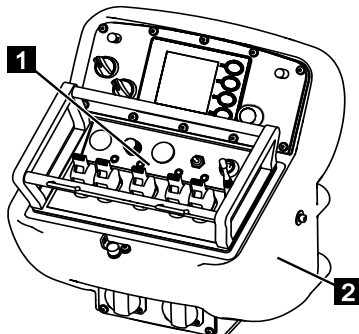

Fig. 138
4. Insert control (Fig.138/1) into the control panel (Fig.138/2).